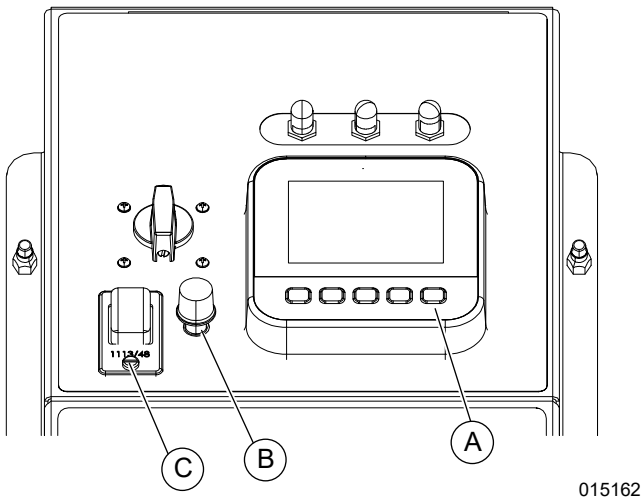

Figure 3-5. Manual Mode Operation
2. See **Figure 3-5**. Switch lights ON and OFF by pressing controller button (A).
3. See Figure 3-5. Verify main circuit breaker (C) is up to ON position before leaving light tower in Auto mode. Adjust brightness of lights by turning dimmer dial (B) to desired brightness.
NOTE: See Figure 3-5. If flicker is noticed on the lights slightly adjust dimmer dial (B) as needed.